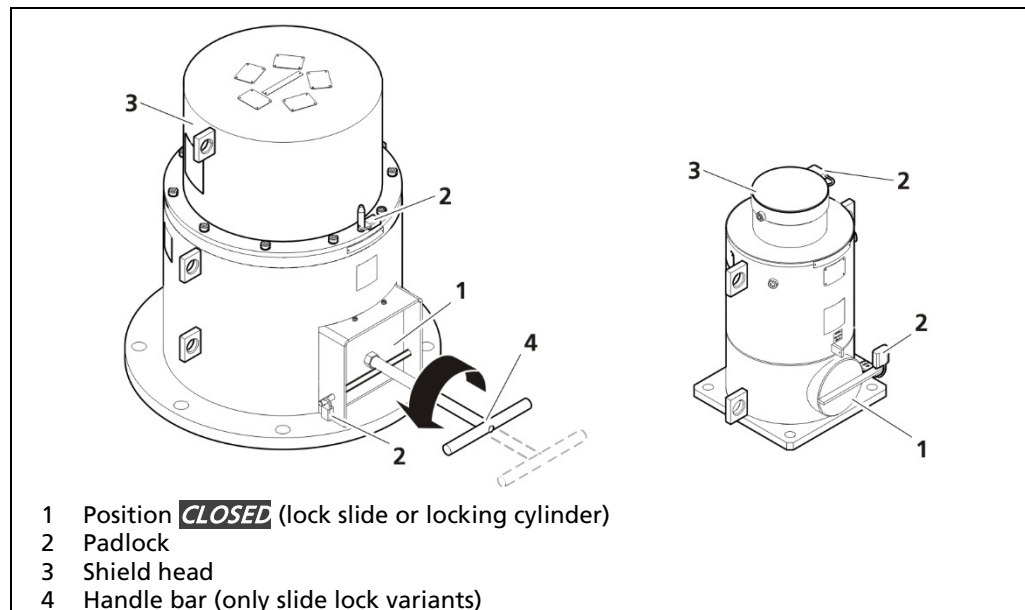

Fig. 23 Dissassemble the shield
- The locking cylinder is set to the **CLOSED** position (Fig. 23, item 1).
- The padlock is installed (Fig. 23, item 2).
2. Remove the handle bar (Fig. 23, item 4).